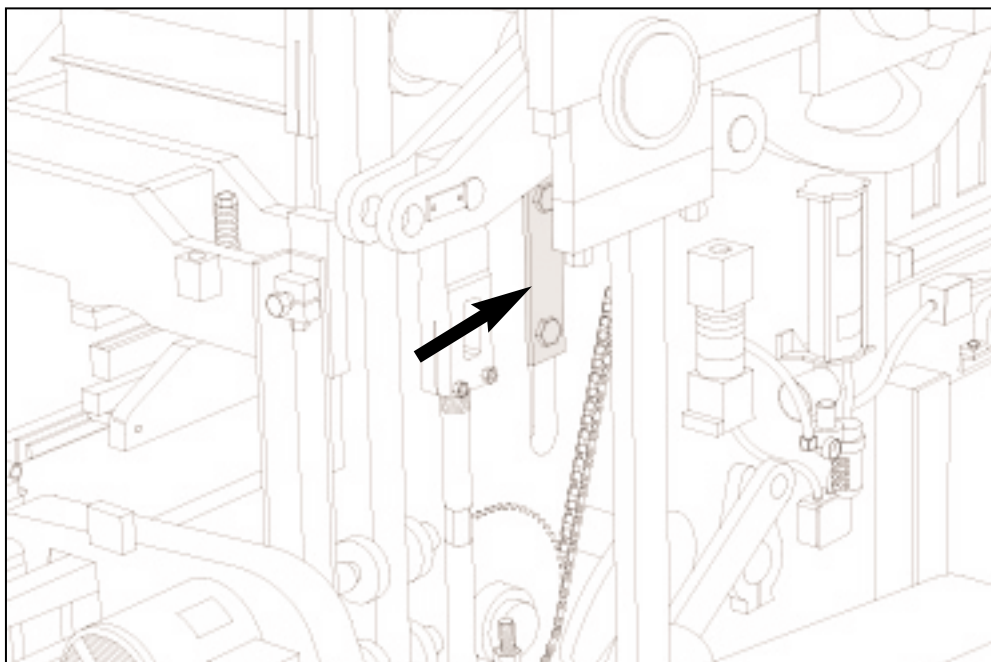

Figure 4.49 LOOSEN "T" CLAMPS ON BOTH SIDES.
a. Loosen the "T" clamps on each side of machine that secure machine side plate to mold throat plate. (figure 4.49).